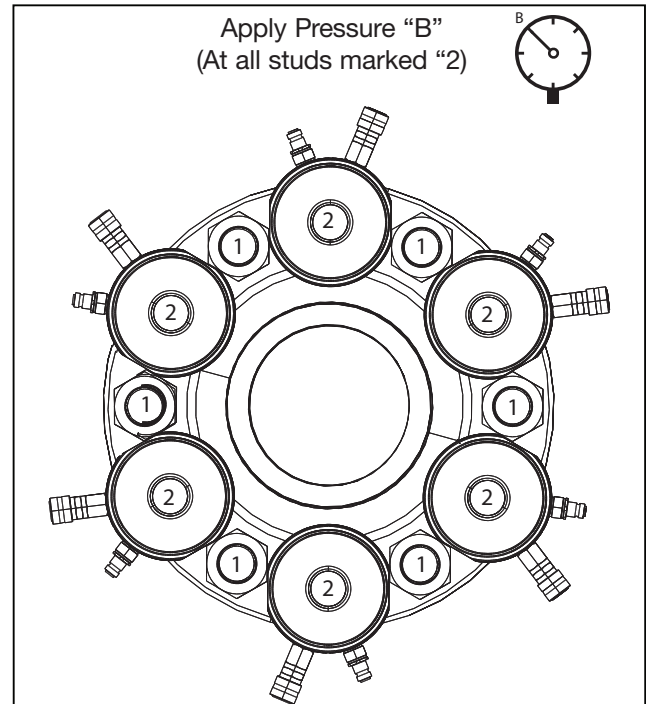

FIGURE 13, TENSIONER ARRANGEMENT,
14. Move the tensioners to the remaining 50% of the bolts (i.e. all bolts numbered “2”). See Figure 13.